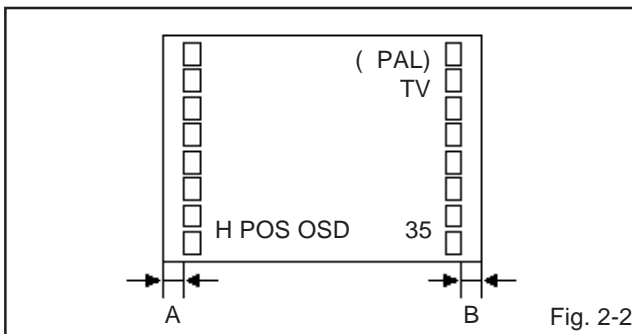

Fig. 2-2
3. Press the VOL. UP/DOWN button on the remote control until the difference of A and B becomes minimum. **(Refer to Fig. 2-2)**